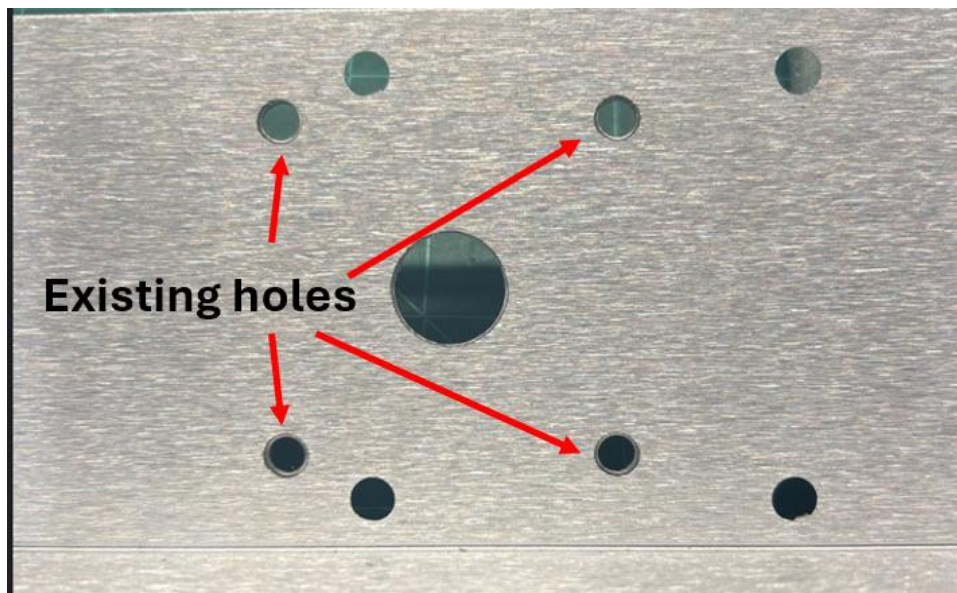

Figure B-1 — Existing mounting holes in the bracket.
1. Locate the existing mounting holes in the bracket (Figure B-1).